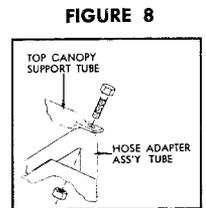

FIGURE 8
12. Fasten top Trailer Canopy tubes (52) to hose adapter assembly tube (53) using $\frac{3}{16}$ -18 bolt and nut as shown in Figure 8.